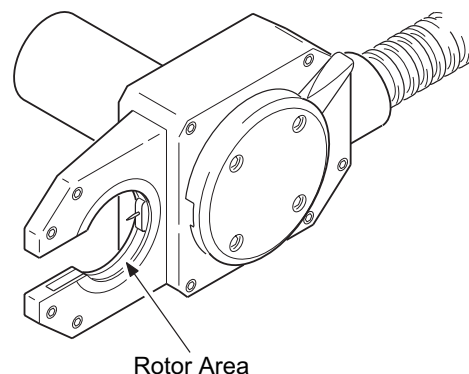

Figure 28 Inspect Exposed Surfaces of the Weld Head
1. Inspect the weld head for cleanliness. Pay close attention to the rotor area. See Figure 28.